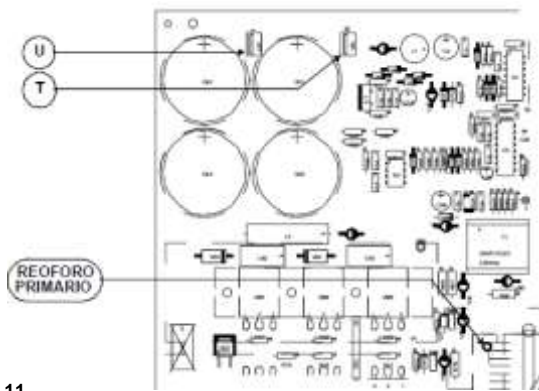

Fig. 11
- On the Inverter electronic board short-circuit points U, T and a rheofore of the primary circuit of the transformer (Fig. 11)